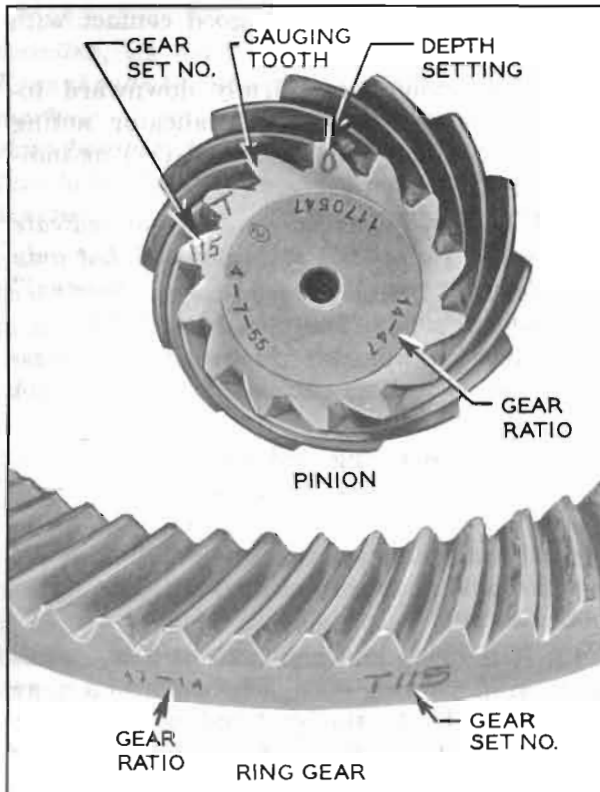

Figure 6-29—Ring and Pinion Gear Set Markings
All Buick ring and pinion gear sets are selectively matched for best operating position and proper tooth contact. After matching, a serial number is etched on one tooth of pinion and on rear face of gear to aid in keeping matched parts together. See Figure 6-29. Parts having different serial numbers must never be used together.
This variation in thousandths of an inch over or under the "nominal" setting is etched on the small end of a pinion tooth. See figure 6-29. When a pinion is marked "+" (plus) it means that the rear face of the pinion when pressed in the carrier must be at the "nominal" distance from the centerline of the side bearing pedestals *plus* the amount indicated on the pinion tooth. When a pinion is marked "-" (minus) it means that it must be located at the "nominal" distance *minus* the amount indicated on the pinion tooth.
7. Rotate the pinion until the blank tooth between the matching number and the pinion setting mark is slightly counterclockwise of top center (at about 11 o'clock). This tooth is called the gauging tooth (Fig. 6-29) because it is used for locating and gauging during production and should therefore be used for gauging in service.
3. Check matching numbers on ring gear and pinion to make sure the two parts have not been mixed with another gear set. See figure 6-29.